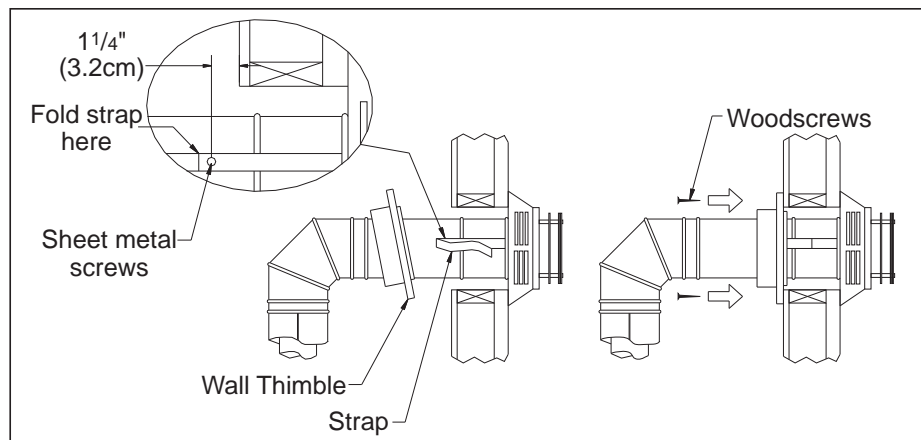

Figure 31: Installing Decorative Wall Thimble.
6. Slide the appliance and vent assembly towards the wall, carefully inserting the vent pipe into the cap assembly. It is important that the vent pipe extend into the vent cap a sufficient distance with a minimum of 1¼" (3.2cm) overlap. Secure the connection between the vent cap pipe and the vent cap by attaching the two sheet metal straps extending from the vent cap assembly into the outer wall of the vent pipe. Use the two sheet metal screws provided to connect the straps to the vent pipe. Bend any remaining portion of the sheet metal straps back towards the vent cap, so the decorative wall thimble will conceal it (see left image in Figure 31).
6. Once the pipe sections have been joined, and run up through the hole in the roof, slip an elbow strap over the exposed sections, bend the support straps outwards, and push the elbow strap down to the roof level, as shown in Figure 31. Tighten the clamp around the pipe section. Use a level to make sure the pipe is truly vertical. With roofing nails, secure the support straps to the roof. Seal the nails holes heads with non-hardening mastic. Trim the excess length of